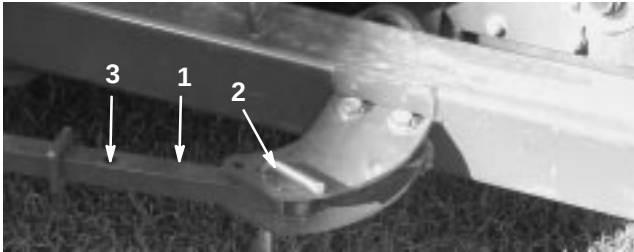
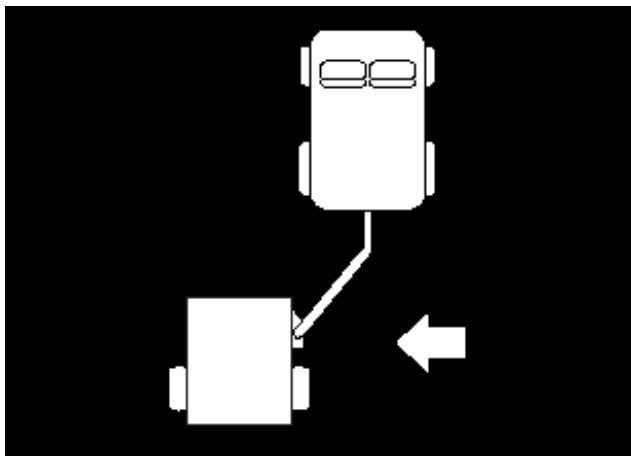

Figure 33
Figure 34
2. Remove the hitch pin securing the actuator arm to the front actuator tab (Fig. 33).
3. Push sweeper to the left (Fig. 34) until the hitch pin can be inserted into the rear hole in the actuator arm (Fig. 33).
4. Install hitch pin securing the actuator arm to the front actuator tab (Fig. 33).